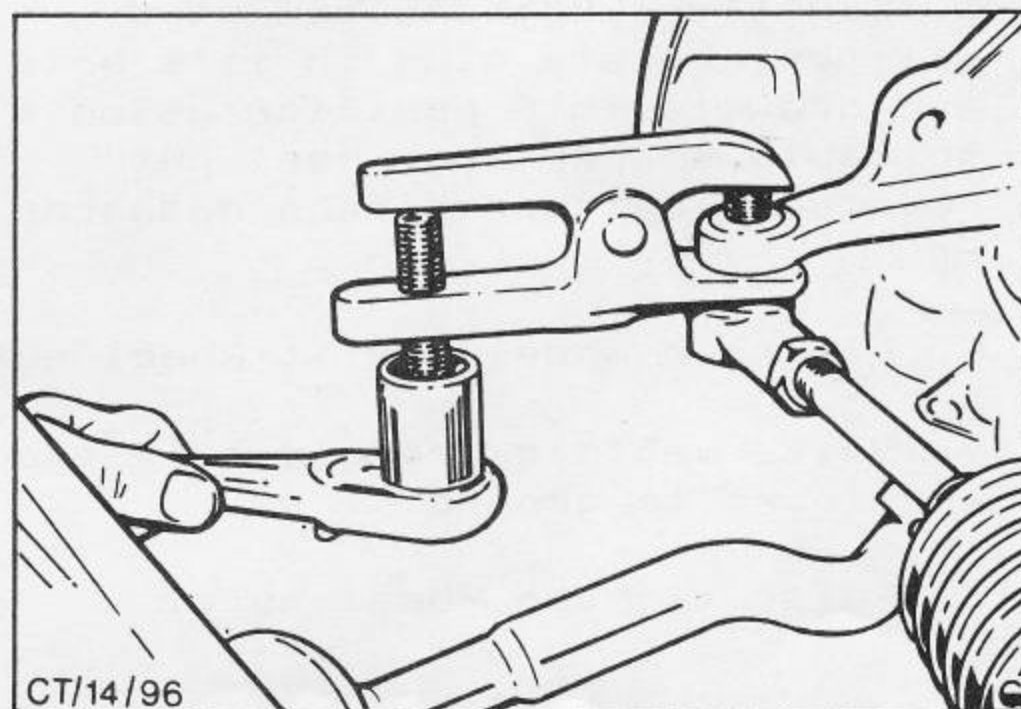

Fig.27 Ball joint separator Tool No. 13 006.
4. Disconnect steering track rod end using ball joint separator. Fig.27